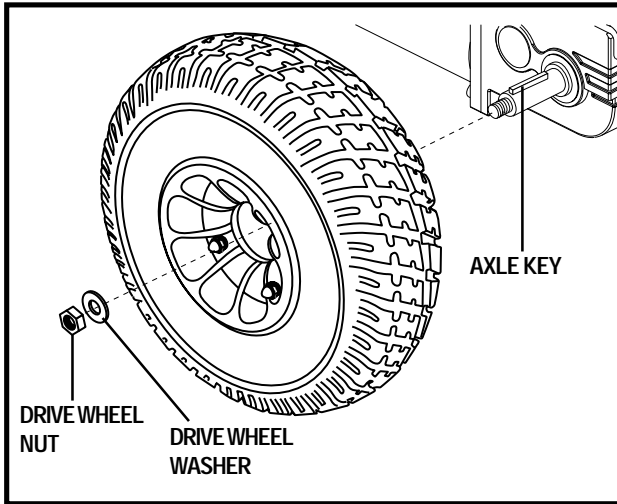

Figure 27. Drive Wheel
4. Remove the drive wheel nut and washer from the wheel axle. See figure 27.
9. Disconnect the battery harness from the rear battery. See figure 27.